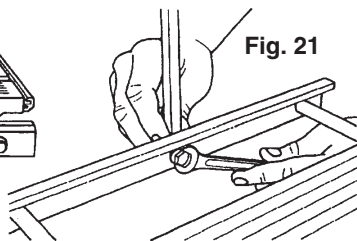

Fig. 21
10. When the bar is square with the Extension, use a 7/16" wrench to securely tighten the bolt, as shown in Fig. 21.